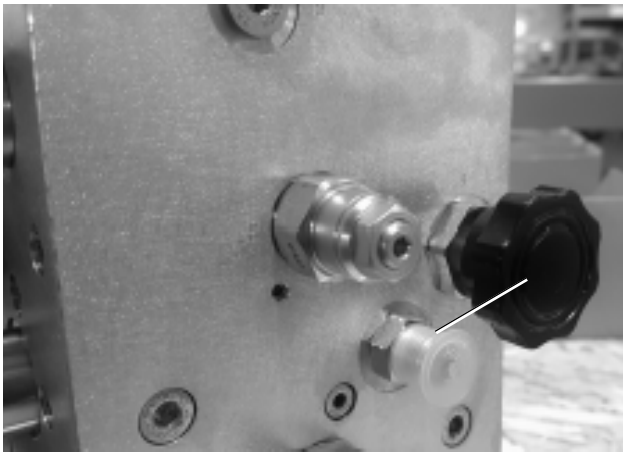

Figure 10.4 – Free Wheeling Valve
- Inside the hydraulic compartment, open the free-wheeling valve by turning it counterclockwise until the knob stops (see figure 10.4).
- Once the unit has been safely pushed / towed open the brake release knob by turning it counterclockwise and close the free wheel valve fully (see figure 10.4).